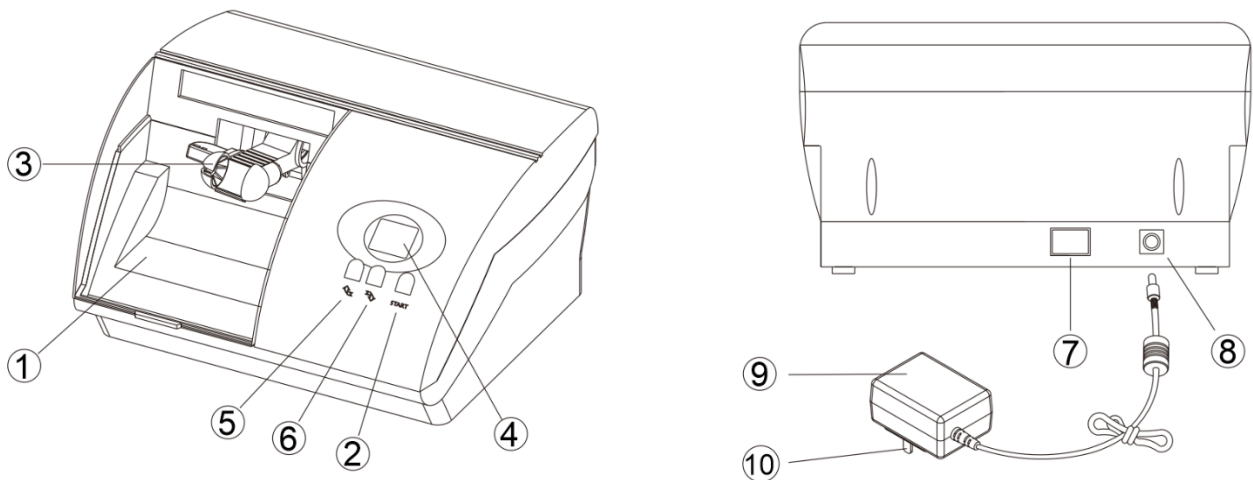

Fig.1
- 1) As shown in Fig.1, turn the power switch on the rear side of the main unit to the “-” position to turn on the power. At this time, the screen will display the initial working time (40 seconds).